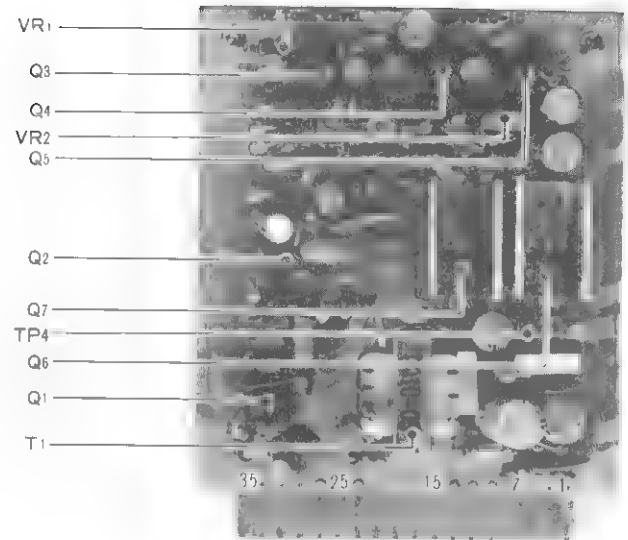

FIGURE 26. AF Board
5.9 AF BOARD (X49-1020-10) (See Figure 26)